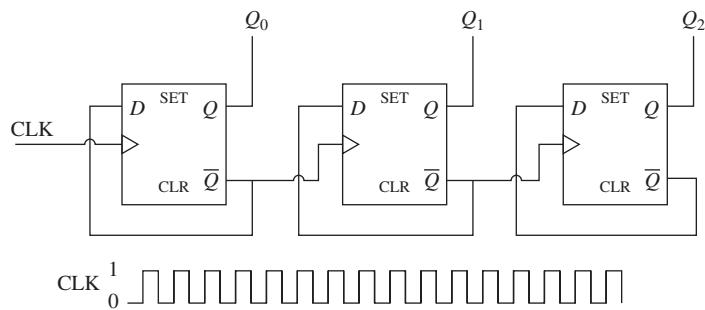

FIGURE P10.67 Counter and its input.
- 10.67** (H) A counter constructed with D flip-flops is shown in Figure P10.67. Assume that each D flip-flop's initial output is 0. Draw its output wave form.